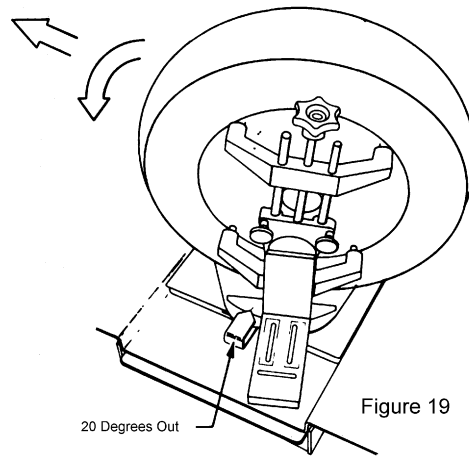

Figure 19
- 1) With the Spirit Level Gauge mounted on the left front wheel clamp, turn the left front wheel outward at the front for a 20 degree reading on the radius gauge. (See Fig. 19)
- 1) With the Electronic Gauge mounted on the left front wheel clamp, turn the left front wheel outward at the front for a 20 degree reading on the radius gauge. (Refer to Fig.19)